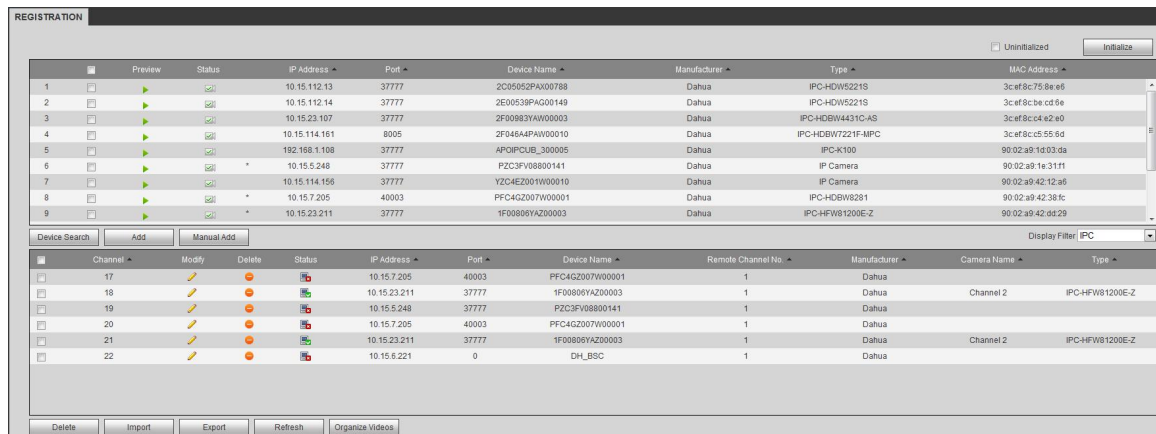

Figure 5-23
- Step 1 From main interface->Setting->Camera->Registration. Enter Registration interface. See Figure 5-23.